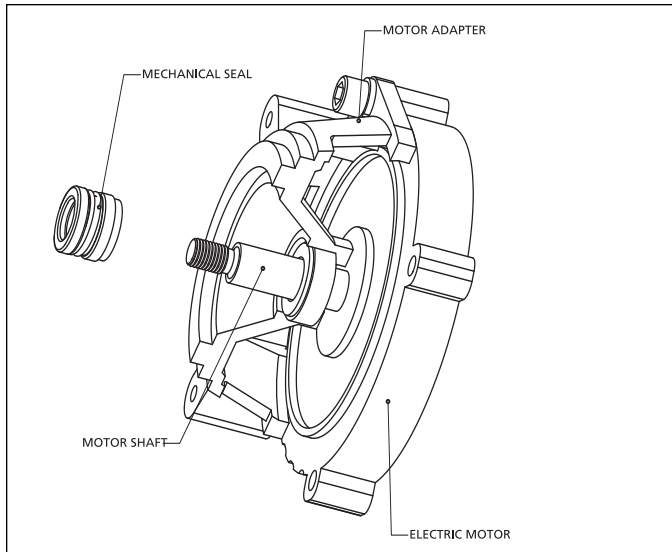

Figure 4 - Seal Removal
3. The seal (Ref. No. 5) can now be pulled from the shaft. (see Figure 4).
Seal Assembly Removal and Installation (Figures 4 thru 7)